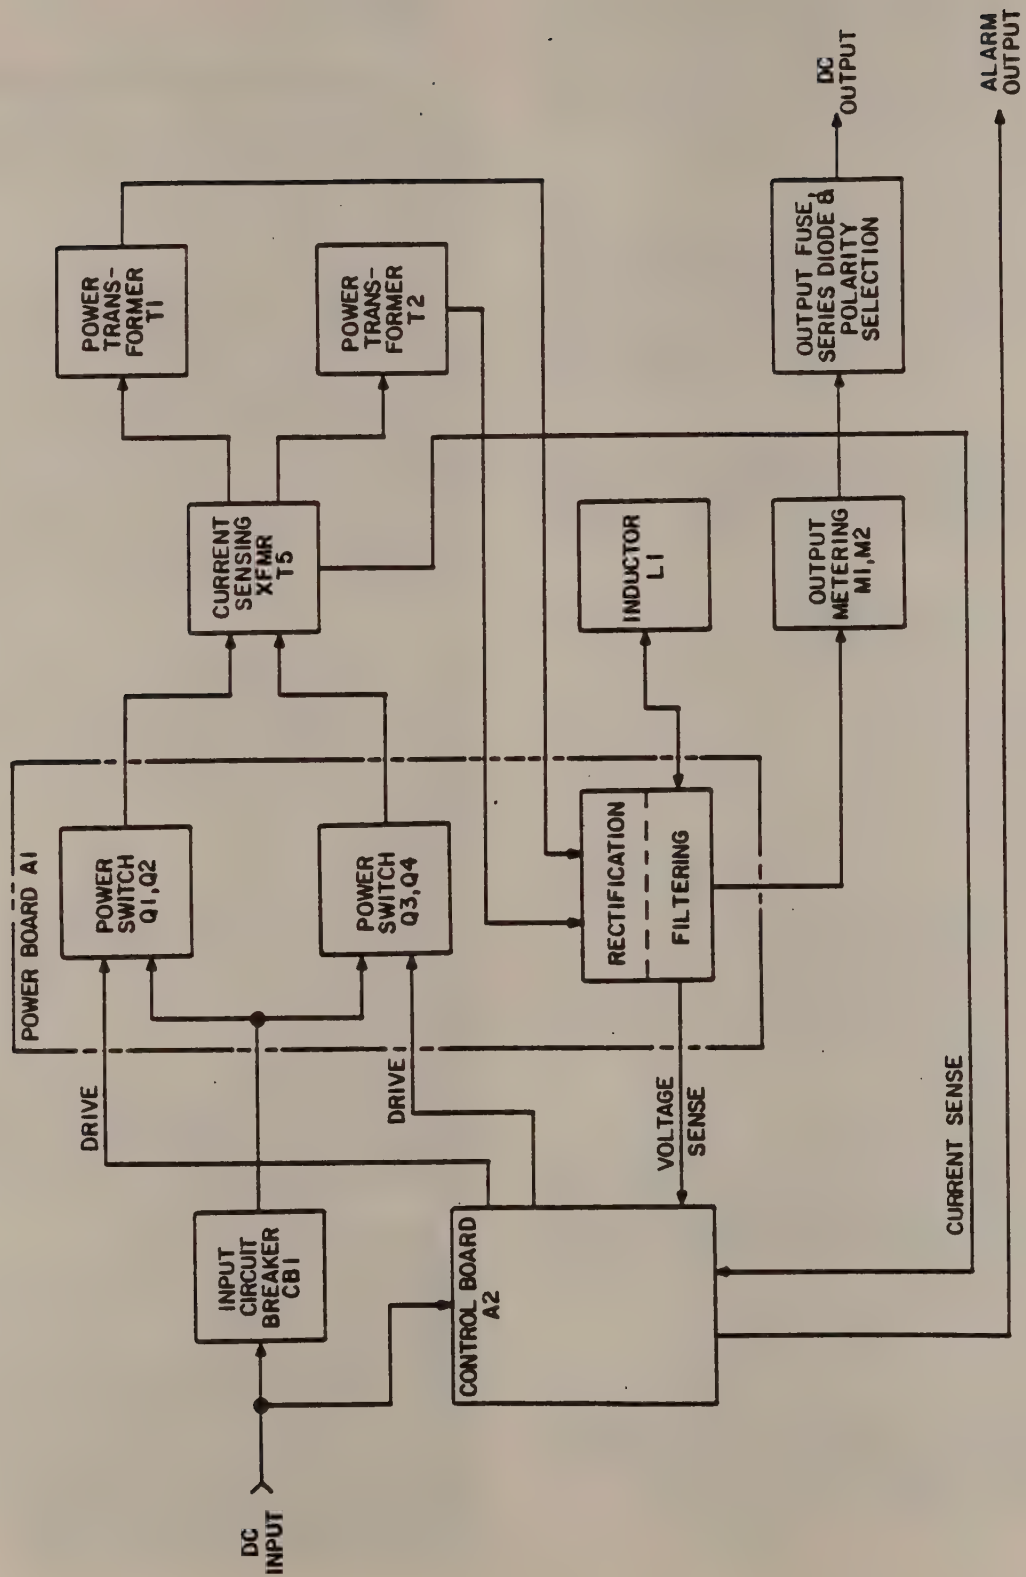

Figure 6-1. Block Diagram; Model HSB6H DC-DC Converter
6.01 The Model HSB6H DC to DC Converter uses pulse width modulation (PWM) techniques for power control, and provides regulated, filtered 130 volts DC output of either positive or negative polarity. The major circuits comprising the converter are shown in block diagram form in Figure 6-1.